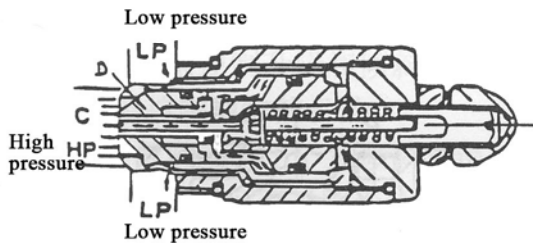

Fig 7.8
- (3) When pilot valve core E is opened, the pressure after the valve core C decreases, so the valve core C will move rightward and fall on the pilot valve core E, as a result, the oil way behind relief valve core D will be shut off and its internal pressure decreases (see Fig 7.8).